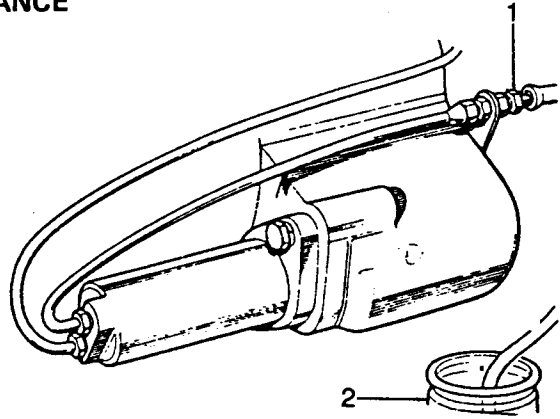

Fig H3.27
- (1) Refer to Fig H3.27. Attach a length of suitable tubing to the slave cylinder bleed screw (1).
- (2) Place the free end of the tube into a clean glass jar (2) containing clutch fluid.
- (3) Slacken the bleed screw.
- (4) Pump the clutch pedal, pausing at the end of each stroke, until the fluid issuing from the tube is free from air with the tube free end below the surface of the fluid in the jar.
- (5) Hold the tube free end immersed and tighten the bleed screw before starting a pedal up-stroke.